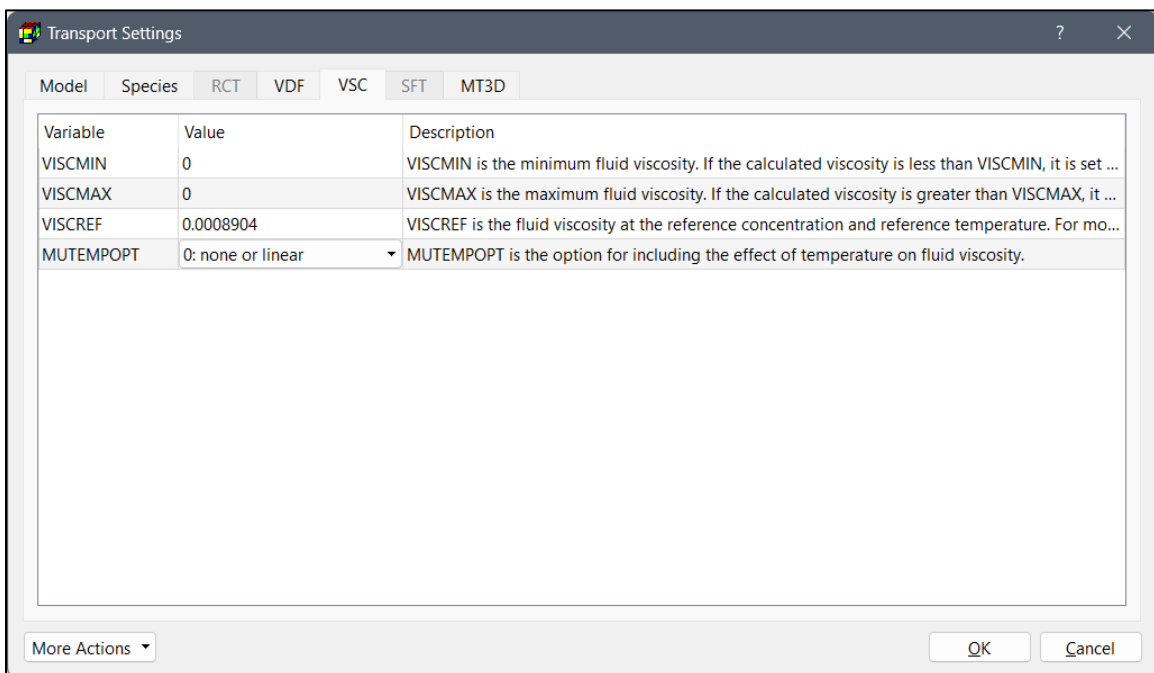

Figure 120. The VSC tab of the Transport Settings dialog box
6. **VSC Tab** (Figure 120) contains Options for the Viscosity Package of SEAWAT.